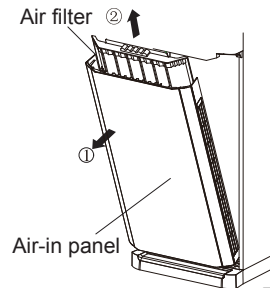

Fig. 2
According the arrow direction ① in fig. 2.